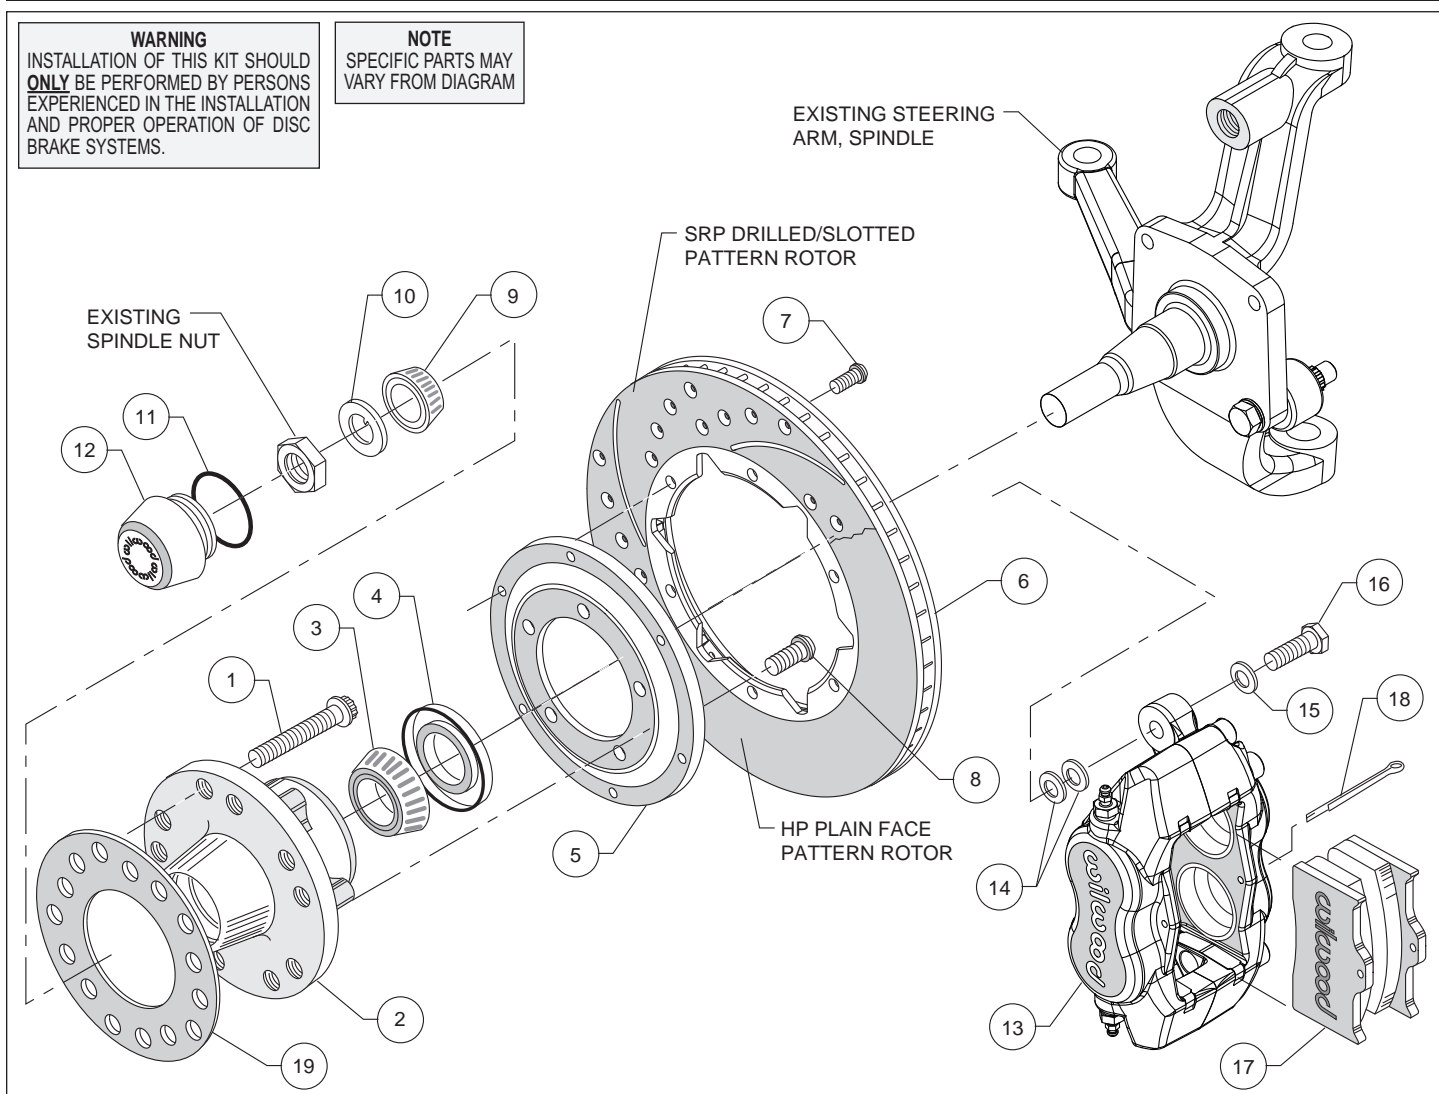

Figure 1. Typical Installation Configuration
Assembly Instructions (numbers in parenthesis refer to the parts list and Figure 1 on the preceding pages):
- Install the grease seal (4) by pressing into the backside of the hub (2), flush with the end of the hub, Photo 2.
- Orient the rotor (6) and the rotor adapter (5) as shown in Figure 1 and Photo 3. Attach the rotor to the adapter using bolts (7). Using an alternating sequence, apply red *Loctite*® 271 to the threads, and torque to 25 ft-lb.
- Mount the adapter/rotor assembly (5/6) to the hub (2) using bolts (8), as shown in Figure 1 and Photo 4. Using an alternating sequence, apply red *Loctite*® 271 to the threads, and torque to 45 ft-lb.
- Mount the caliper (13) onto the caliper mounting bracket (customer supplied) using bolts (16) and washers (15), as shown in Figure 1. Initially place two .035" thick shims (14) on each bolt between the caliper and the bracket, Photo 7. Temporarily tighten the mounting bolts and view the rotor (6) through the top opening of the caliper. The rotor should be centered in the caliper, Photo 8. If not, adjust by adding or subtracting shims between the bracket and the caliper. Always use the same amount of shims on each of the two mounting bolts. Once the caliper alignment is correct, remove the bolts one at a time, apply red *Loctite*® 271 to bolt threads, and torque to 40 ft-lb.